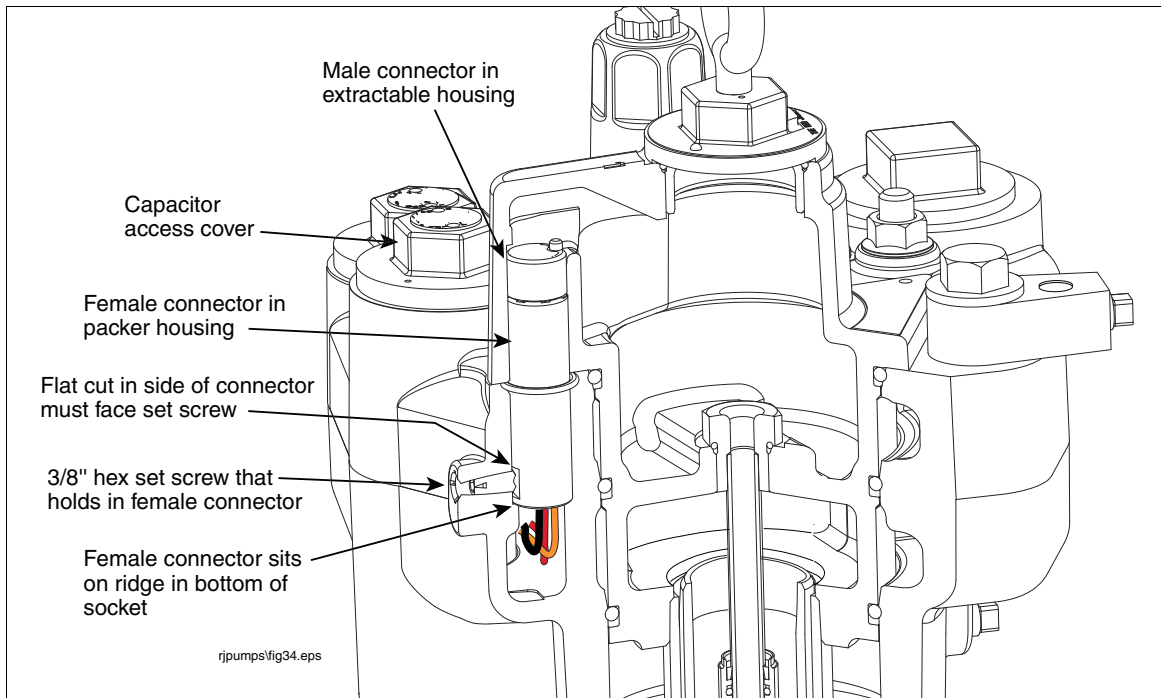

Figure 51. Locating Female Connector Set Screw
18. Using a 3/16" hex wrench, turn the set screw that holds the female connector in place about 1-1/2 turns counterclockwise until you can lift out the connector (see Figure 51).